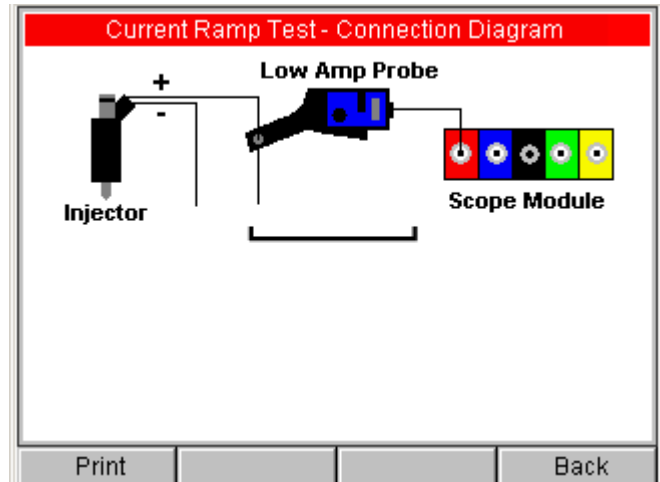

Figure 11.11: Repair Info Function Key, Connection Diagram Screen
- 2 Select **Connection** and press the **ENTER** key. This displays the Connection Diagram screen (Figure 11.11).